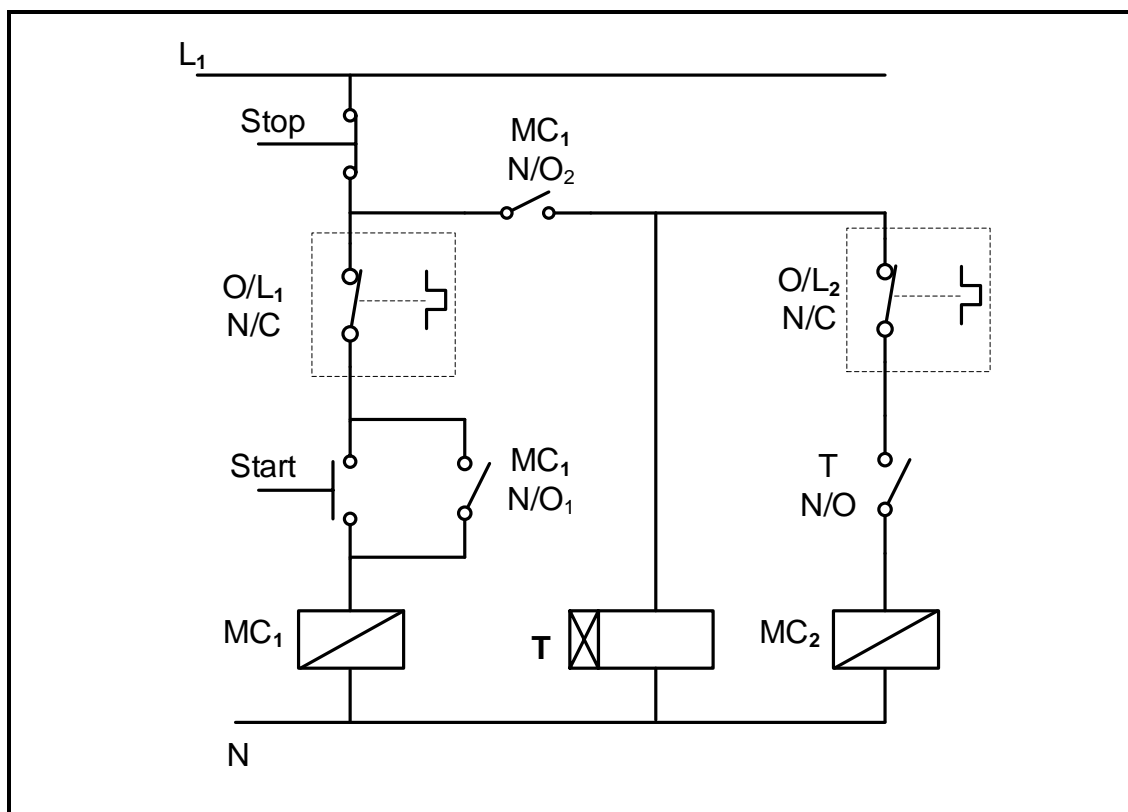
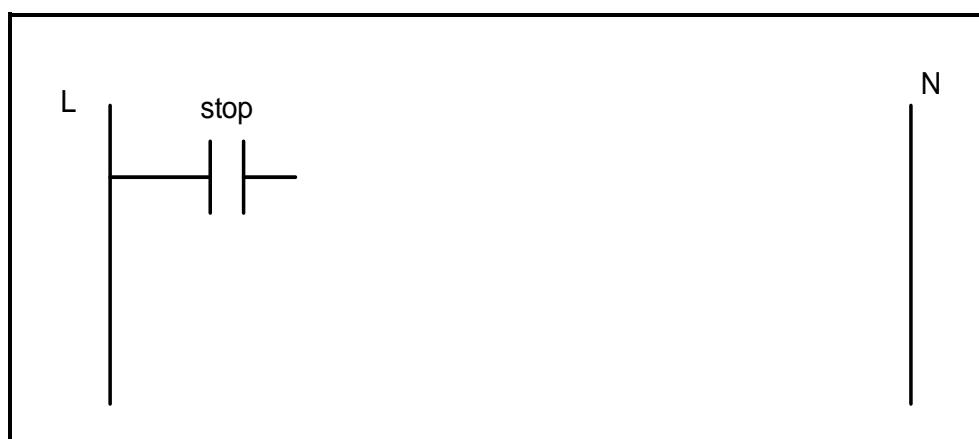

FIGURE 7.5: AUTOMATIC SEQUENCE STARTER
FIGURE 7.5.4
7.5 Refer to FIGURE 7.5 below and answer the questions that follow.
- 7.5.4 In the ANSWER BOOK, redraw the PLC ladder logic diagram in FIGURE 7.5.4 below and complete it so as to execute the same function as the circuit in FIGURE 7.5. above. (9)